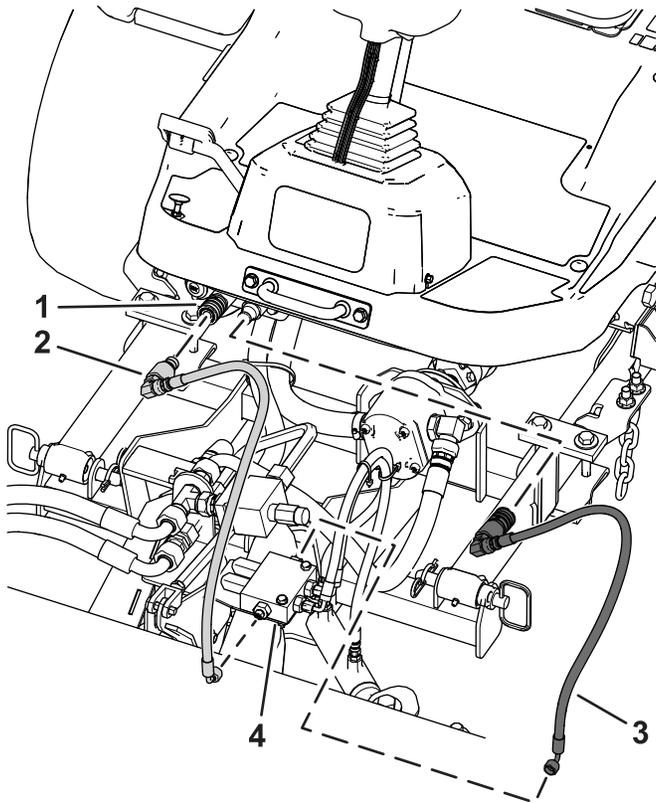
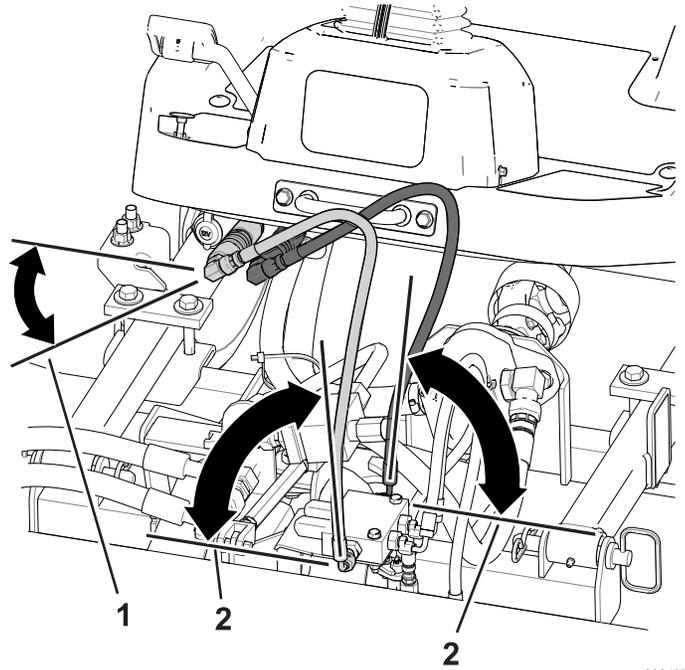

Figure 12
Figure 13
Note: Install the hoses at the angles shown in Figure 13.
1. Install the hydraulic hose with the male fitting to the front of the broom manifold (Figure 12). Refer to Figure 13 for the correct angle.
3. Connect the hydraulic hose with the hydraulic port under the steering column (Figure 12).
6. Connect the hydraulic hose with the hydraulic port under the steering column (Figure 12).
4. Install the hydraulic hose with the female fitting to the back of the broom manifold (Figure 12). Refer to Figure 13 for the correct angle.